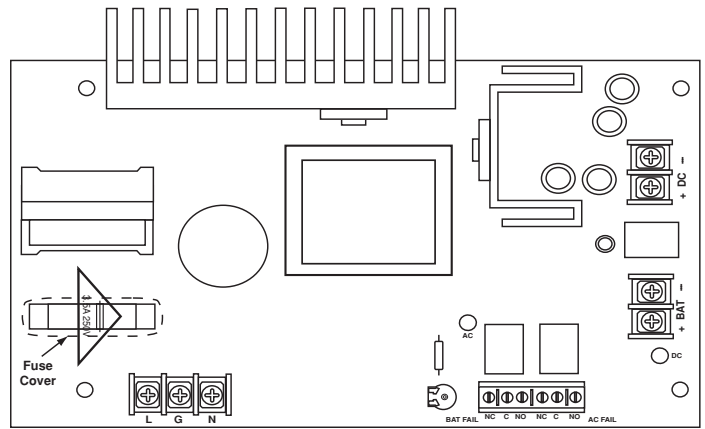

Fig. 1
2. Connect unswitched AC power (115VAC 50/60Hz) to terminals marked [L, G, N] (*Fig. 1*). Use 18 AWG or larger for all power connections (Battery, AC input, DC output). Use 22 AWG to 18 AWG for power limited circuits (AC Fail/Low Battery reporting). **Keep power limited wiring separate from non-power limited wiring (115VAC / 60Hz Input, Battery Wires). DC output Minimum .25" spacing must be provided.**
4. Connect devices to be powered to terminals marked [+ DC -] (*Fig. 1*).
5. For Access Control applications, batteries are optional. When batteries are not used, a loss of AC will result in the loss of output voltage. When the use of stand-by batteries is desired, they must be lead acid or gel type. Connect battery to terminals marked [+ BAT -] (*Fig. 1*).
6. It is required to connect appropriate signaling notification devices to AC FAIL & BAT FAIL supervisory relay outputs (*Fig. 1*). Use 22AWG to 18AWG wires. AC FAIL will report in 5 minutes. To delay report 6 hours cut "AC delay" jumper.